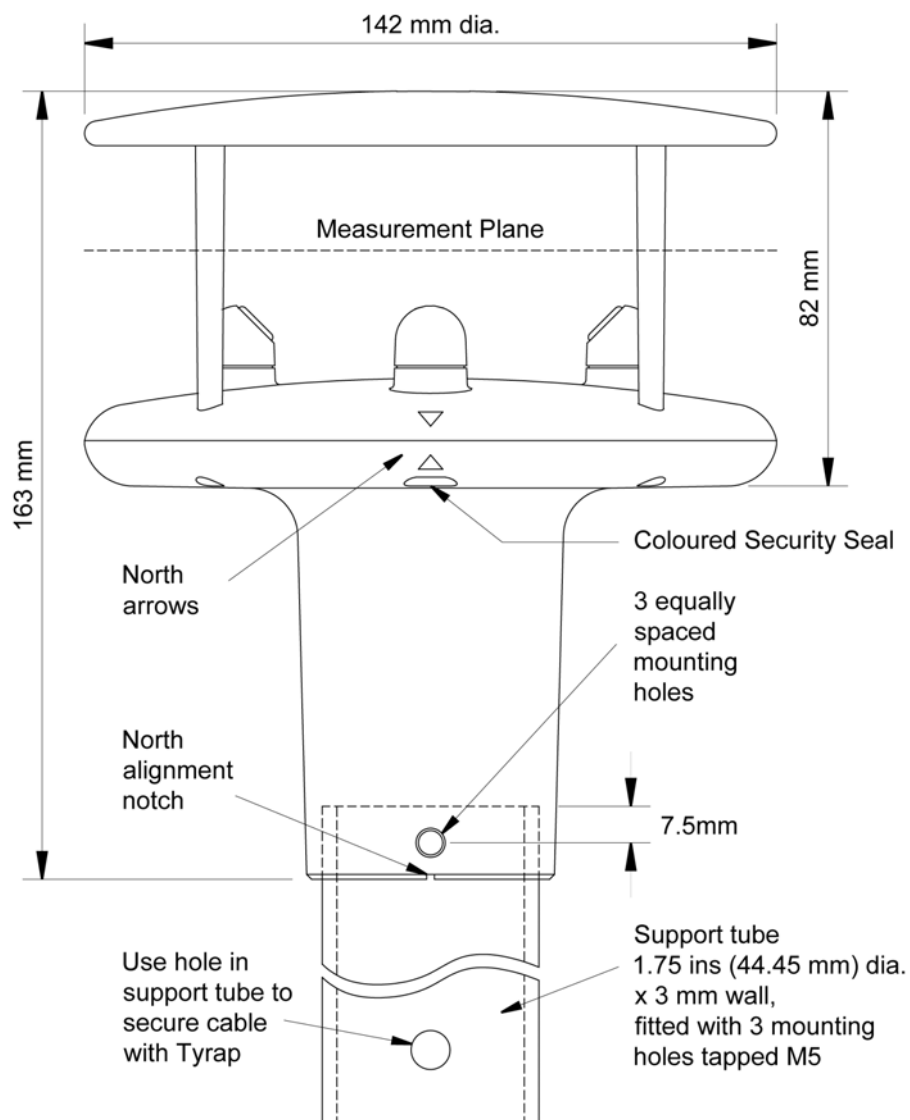

Figure 3 Alignment &amp; Mounting details
*See Figure 3 Alignment & Mounting details*
*See Figure 3 Alignment & Mounting Details*
Shows the Wind Speed in the Measurement Plane (*See Figure 3 Alignment & Mounting details*) in one of the following units: